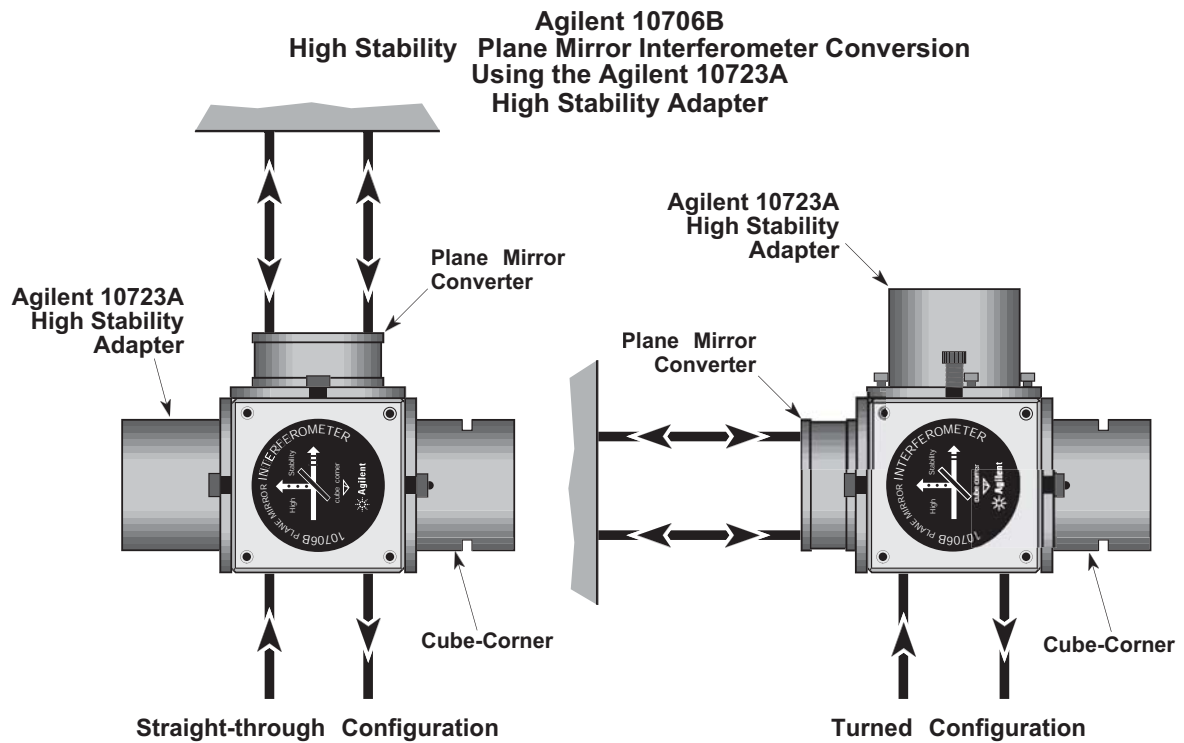

Figure 135 Agilent 10706B Interferometer — configurations
The Agilent 10706B High Stability Plane Mirror Interferometer is shipped in the straight-through configuration as shown in Figure 135. Note the location of the plane mirror converter and high stability adapter with respect to the graphics on the label.
The Agilent 10706B interferometer can be configured to turn the beam to reduce the number of beam-bending optics, as shown in Figure 135. This is done by interchanging the high stability adapter and the plane mirror converter and adding new mounting and adjusting hardware for the High Stability Adapter. Note the location of the plane mirror converter and high stability adapter with respect to the graphics on the label.
- 2 Equip both 4-40 × 1/2-inch long mounting screws with a compression spring and use them to mount the High Stability Adapter in place of the plane mirror converter as shown in Figure 135.